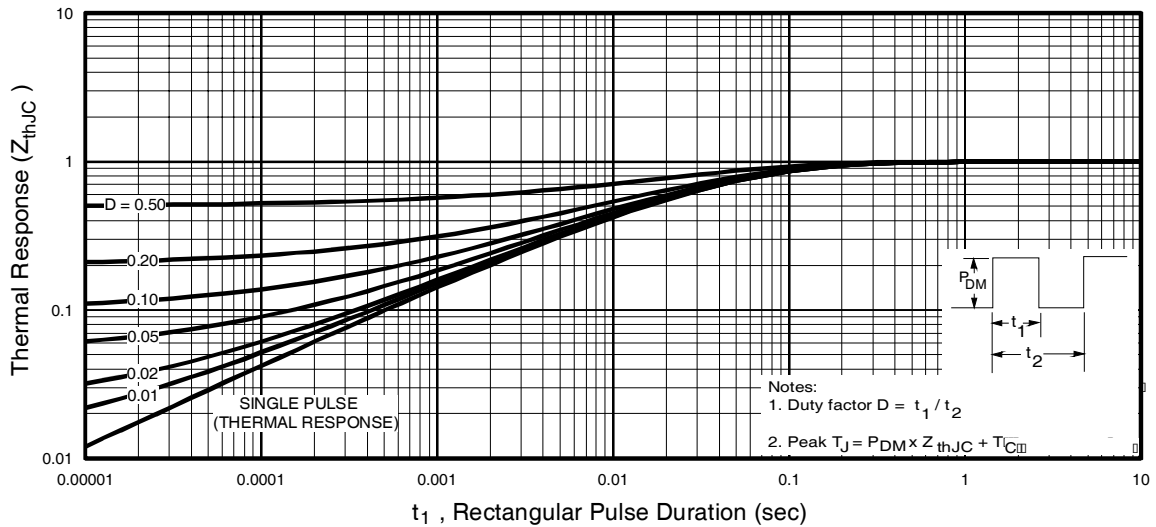

Fig 11. Maximum Effective Transient Thermal Impedance, Junction-to-Case
- ① Repetitive rating; pulse width limited by max. junction temperature. (See fig. 11)
- ② V_{DD} = 25V, starting T_J = 25°C, L = 1.2mH
- ③ I_{SD} ≤ 29A, di/dt ≤ 490A/μs, V_{DD} ≤ V_{(BR)DSS}, T_J ≤ 175°C
- ④ Pulse width ≤ 300μs; duty cycle ≤ 2%.
- ⑤ Uses IRL2910 data and test conditions